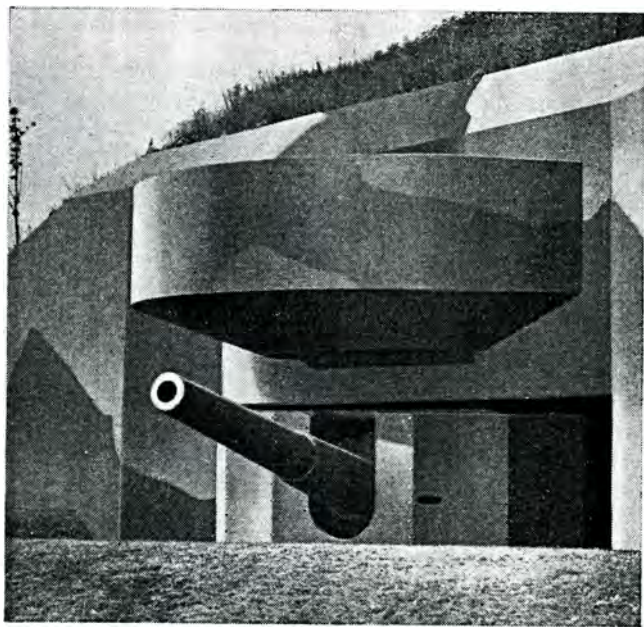

Figure 1. 12-inch casemated gun.
1. SCOPE. a. This manual prescribes the service of the piece for the modified 12-inch casemated gun (fig. 1) on the M1917 carriage. Guns, carriages, and batteries differ in type, arrangement, and design, and for this reason the service of the piece as prescribed in this manual is intended only as a guide for the battery commander in the assignment of individuals and duties. Changes in the details of the service of the piece to meet local conditions may be made. Where the battery is lacking in all or some of the modifications mentioned in b below, the battery commander should refer to FM 4-60.